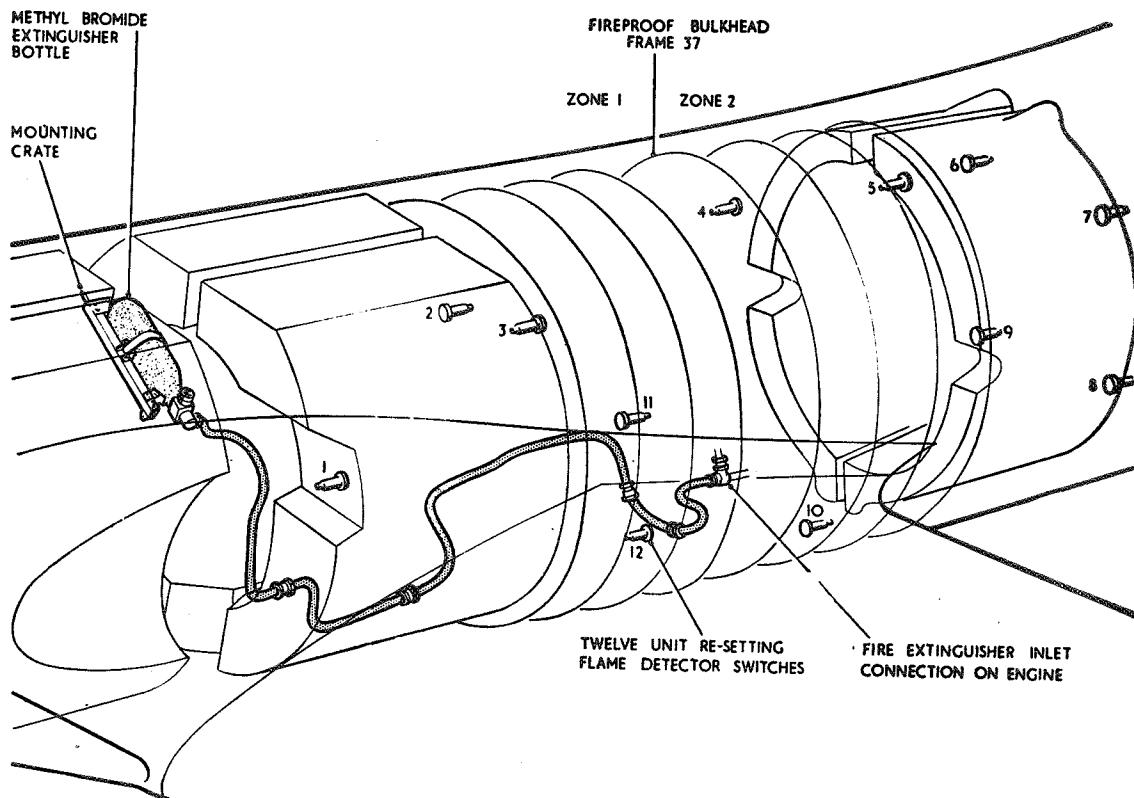

Fig. 2. Fire protection system
## Introduction (fig. 2)
*In certain circumstances during an engine ground run, when the engine bay may become temporarily overheated, the warning lamp may flicker on and off although there is no fire. In such circumstances, emergency action is not necessary unless the warning lamp remains steadily illuminated. The positions of the flame switches are shown in fig. 2.*
- (1) Render the aircraft electrically safe (Sect. 5, Chap. 1, Group A.1).
- (2) Gain access to the engine starter bay (Sect. 2, Chap. 4, fig. 2), remove the breeze plug from the operating head of the bottle and disconnect the spray pipe from the union on the head.
- (3) Remove two nuts securing the bottom of the cradle holding the bottle and tilt